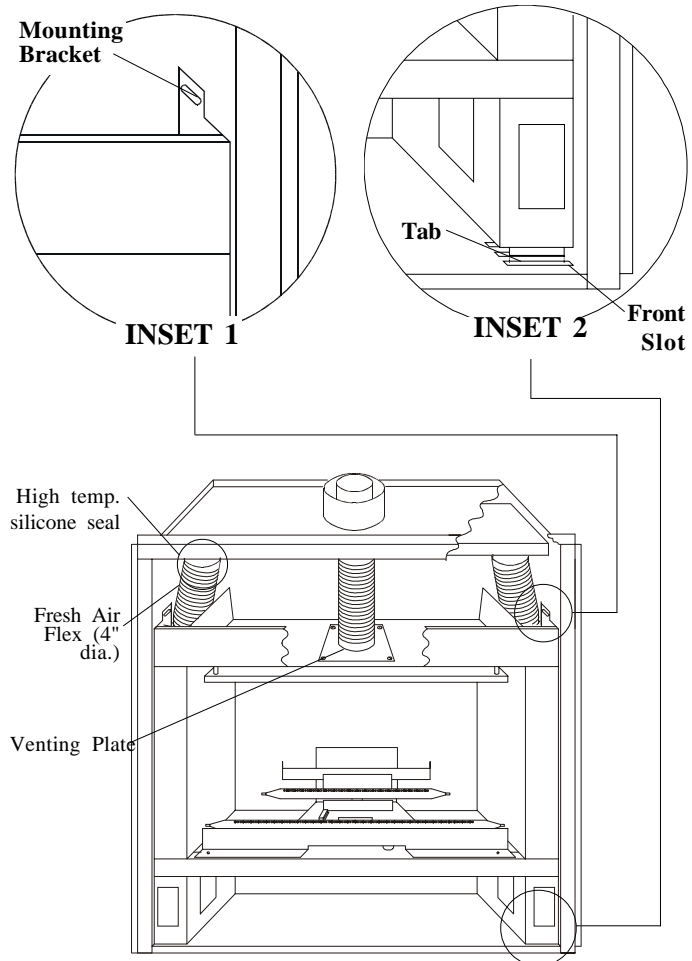

Figure 22. ME38-DV-2 insert.
2. Remove the fresh air flex from the collars on the shell. *See Figure 22. Important: Be careful not to damage the fresh air flex during removal or storage.*